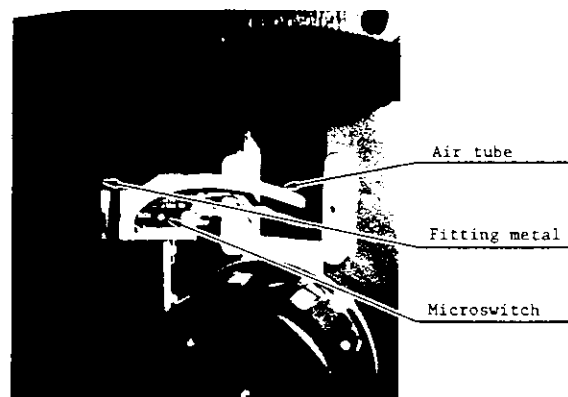

Figure L.18 Microswitch (rear view of MTU)
- (2) Pull out the file protection assembly and remove the air tube shown in Figure L.18.
- (3) Disconnect and tag the microswitch lead wires and remove the microswitch.
- (4) Remove the metal bracket from the file protection assembly.